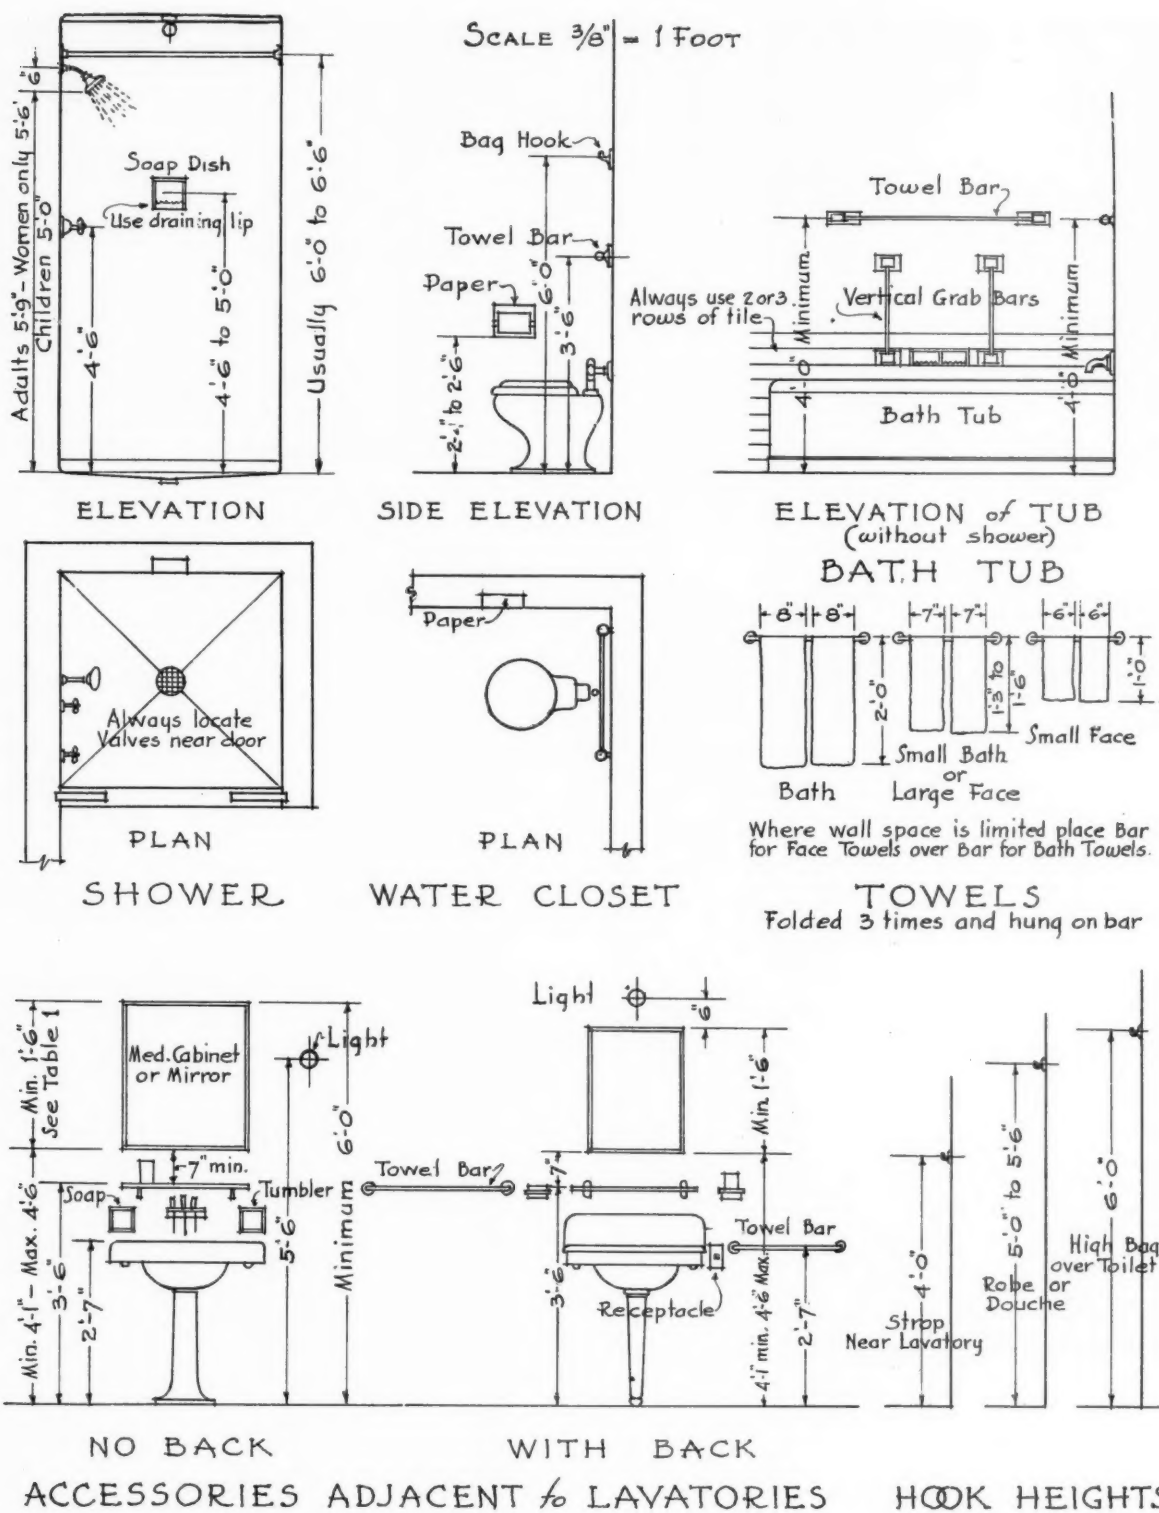

Figure 8. BATH ROOM ACCESSORIES
16. *Shower heads and controls should always be so located in shower enclosure or bath that controls may be reached without the operator's being wetted by the shower spray.* The preferred location is close to the door opening on either adjacent wall. See Fig. 8.
enough to hold bath towel, face towel and face cloth may be needed for each member of the family, plus an additional rack for guest towels. Obviously the placement of these racks for convenience to the lavatory and bath introduces a serious problem of design, and may require wall space of considerable dimensions. See Table III and Fig. 8.